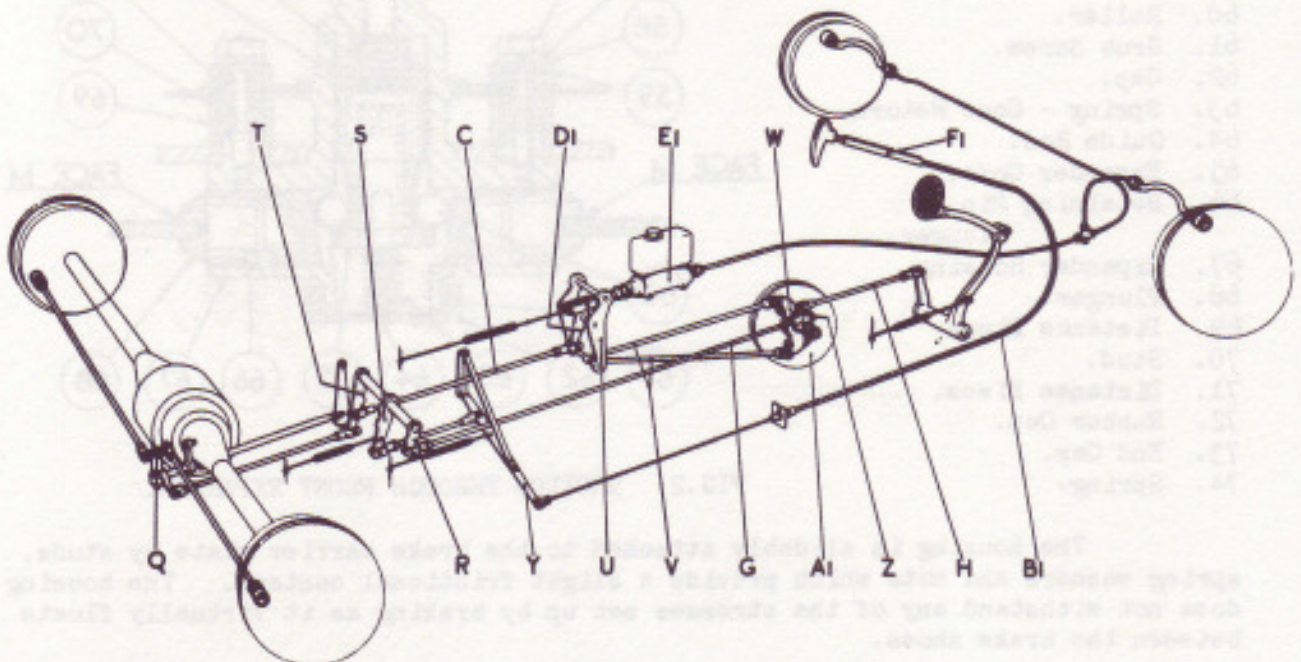

FIG. 1. DIAGRAM OF BRAKING SYSTEM.
A diagram of the system is given in Fig.1.
A pull rod (H.Fig.1), operated by the pedal, is coupled to a lever (W), on the servo motor shaft, the motor itself (A1) being mounted on the off-side of the gearbox, and driven at approximately one-tenth of the propeller shaft speed.
The dashboard hand brake (Pl. Fig.1), is mounted under the fascia board, convenient to the driver's right hand. The ratchet release is so arranged, that should it be inadvertently knocked or pressed, the brakes will not be released. In order to release the brakes, the trigger must be fully depressed and held in this position. The hand brake is then pulled, as if